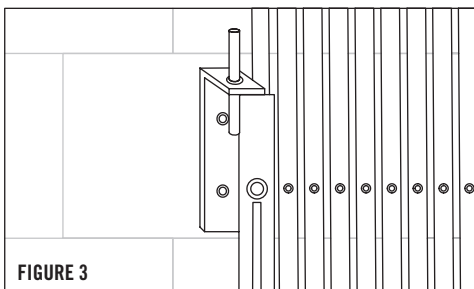

FIGURE 3
- 3) Extend gate and hang L-bracket on top of gate to verify where it will be mounted. To release tension you may lift the wheel 1/2"-3/4" off the floor. Mark and drill pilot holes into door frame or wall. It may be easier to drill pilot holes if you remove the gate from its floor mount. Place bearing washer and bottom gate pin back into floor mount. Slip L-bracket over top of gate and bolt (not included.) (See Figure 3)